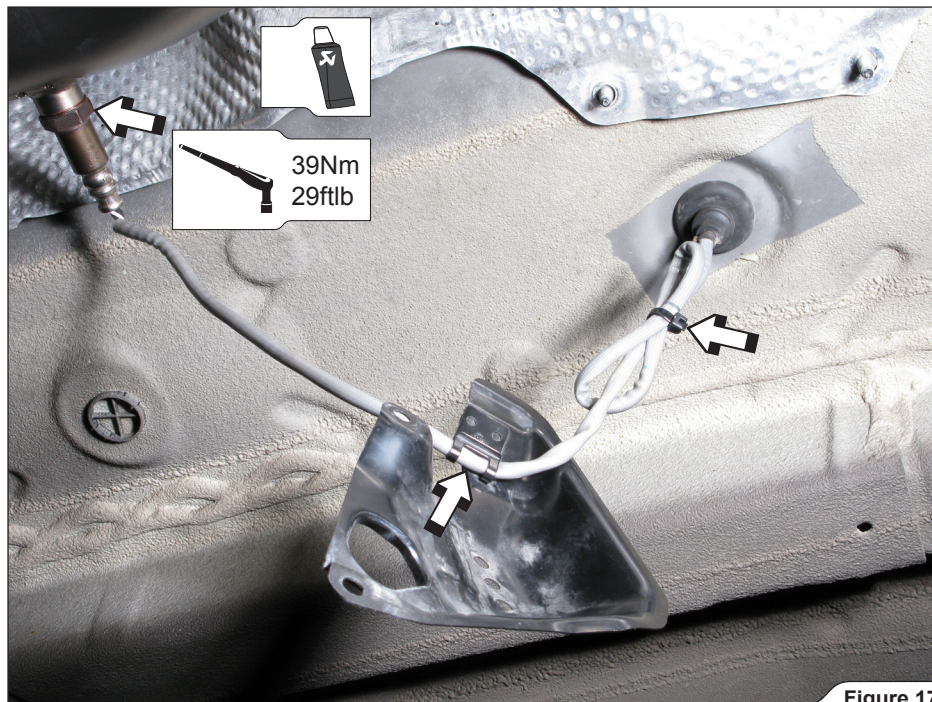

Figure 17
6. **For Evolution only:** unscrew the lambda sensor's electrical lead protection. Tighten the lambda sensor into the front pipe and shorten the electrical lead (using tie wrap), as shown (**Figure 17**).